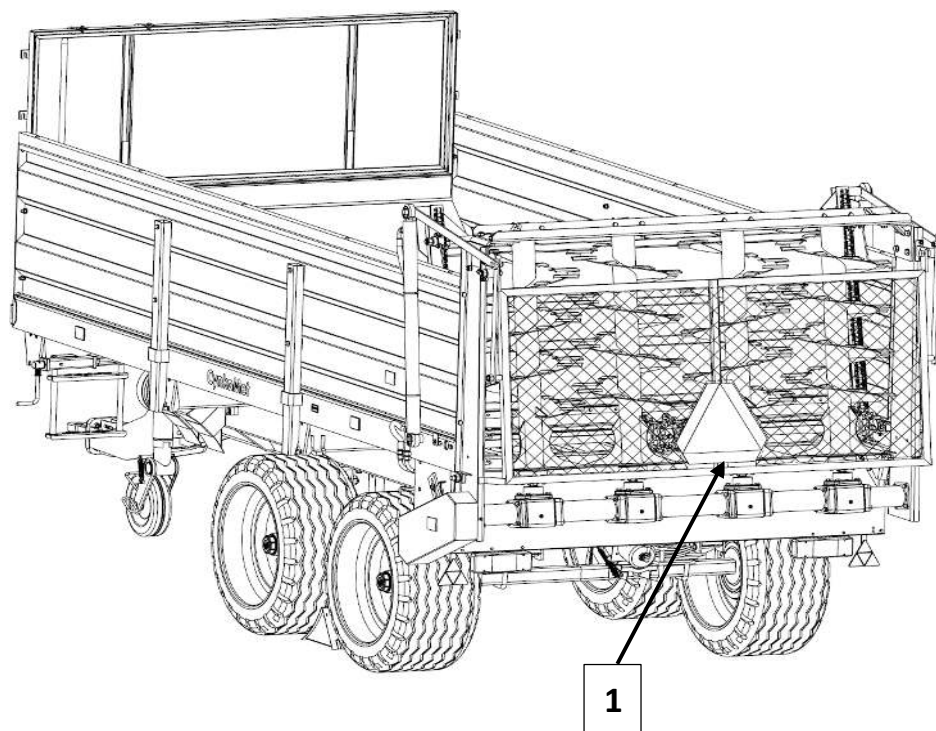

Figure 2. The location of the placement of the plate distinguishing slow-moving vehicles.
- While driving on public roads, the spreader should be equipped with a certified or approved warning triangle. A triangular plate should be placed on the rear wall for slow-moving vehicles (1) as shown below (Fig. 2). The triangle is to be fastened to the holder on the adapter's guard.